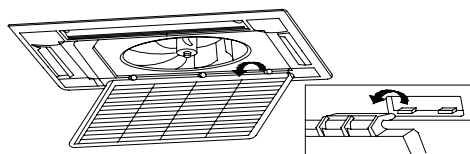

Fig. 29
(4). Open the air inlet grille for an angle of 45°, as shown in Fig.29, and then raise it.